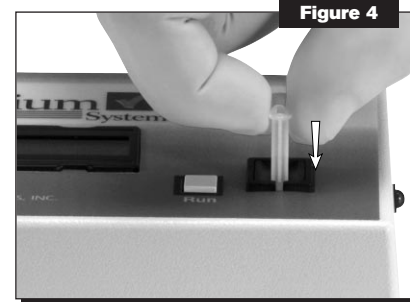

Figure 4
5. Peel back and remove the seal on the Cuvette. Tap the Cuvette on the table to ensure all reagent is down to the bottom. Remove the Cuvette Cover and insert the Cuvette into the Reader by aligning the flange on the Cuvette with the slot located in the front of the Cuvette Holder and pushing down firmly until seated (Figure 4).